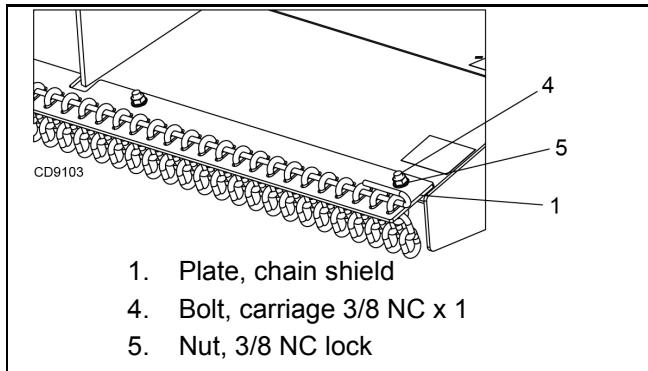

Figure 24. Chain Shielding Installation
1. Install chain shielding plate (1) on top rear edge of mower frame as shown in Figure 24.
2. Secure with carriage bolts (4) and flanged lock nuts (5).